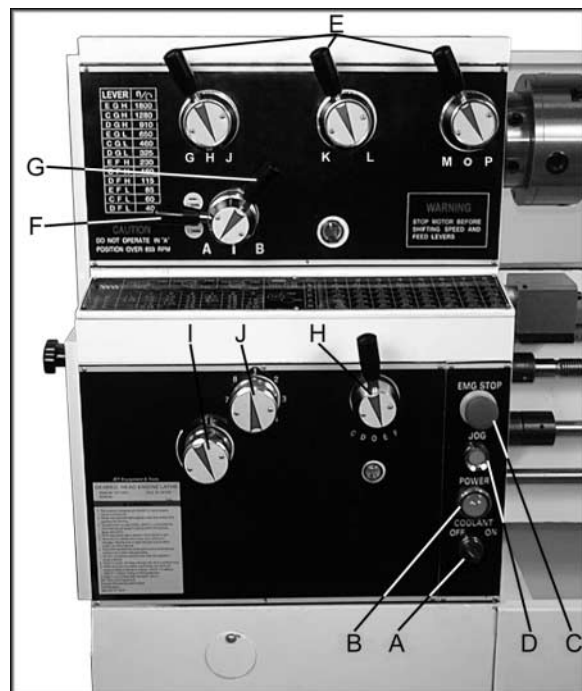

Figure 14
- A. **Coolant On-Off Switch** (A, Fig. 14) - turns coolant pump on and off.
- B. **Power Indicator Light** (B, Fig. 14) - lit whenever lathe has power.
- C. **Emergency Stop Switch** (C, Fig. 14) - depress to stop all machine functions.
- D. **Jog Switch** (D, Fig. 14) - Press and release to advance spindle momentarily.
2. **Headstock Gear Change Levers** (E, Fig. 14) - located on front of the headstock. Move levers according to speed chart for desired setting.
3. **Leadscrew/Feed Rod Directional Lever** (F, Fig. 14) - located on front of headstock. Moving the lever up causes carriage travel toward the tailstock. Moving the lever down causes carriage travel toward the headstock. When chuck is spinning in the forward or counter-clockwise direction. Do not move lever while machine is running.
4. **Feed/Lead Selector Lever** (G, Fig. 14) - located on the front of the headstock. Used whenever setting up for threading or feeding.